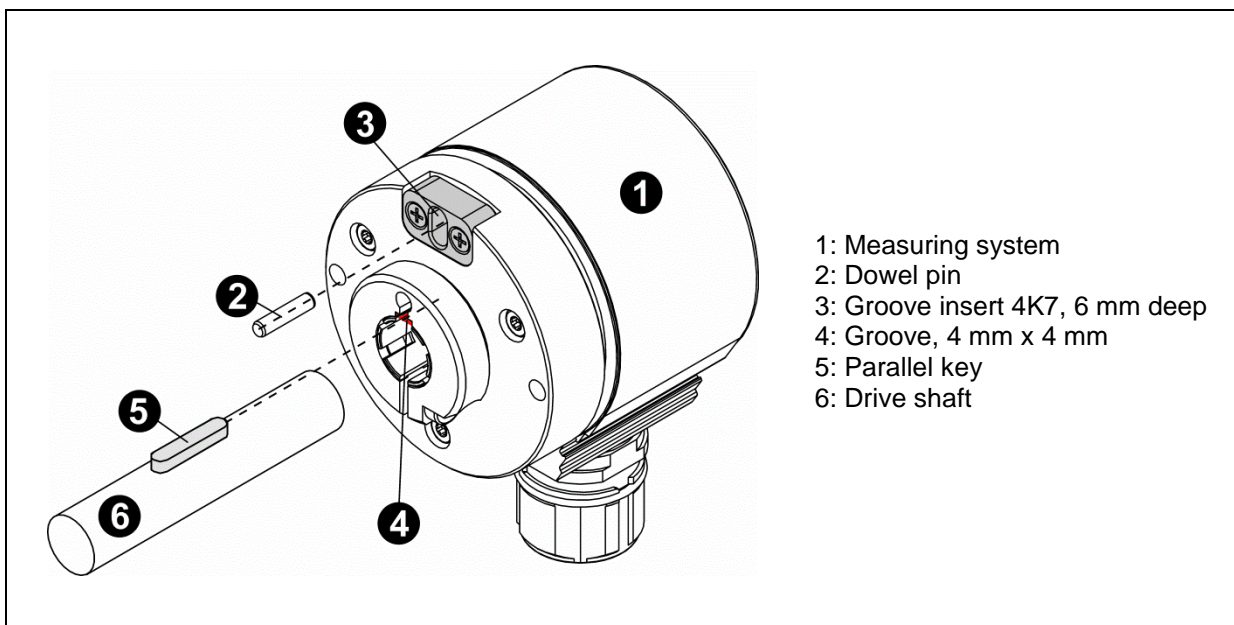

Figure 2: Form closure
- Radial slipping of the measuring system on the drive shaft must be prevented by means of form closure, using a parallel key / groove combination; the measuring system must be fixed on the drive shaft using a dowel pin, see Figure 2. The dowel pin must extend at least 4 mm into the groove insertion.